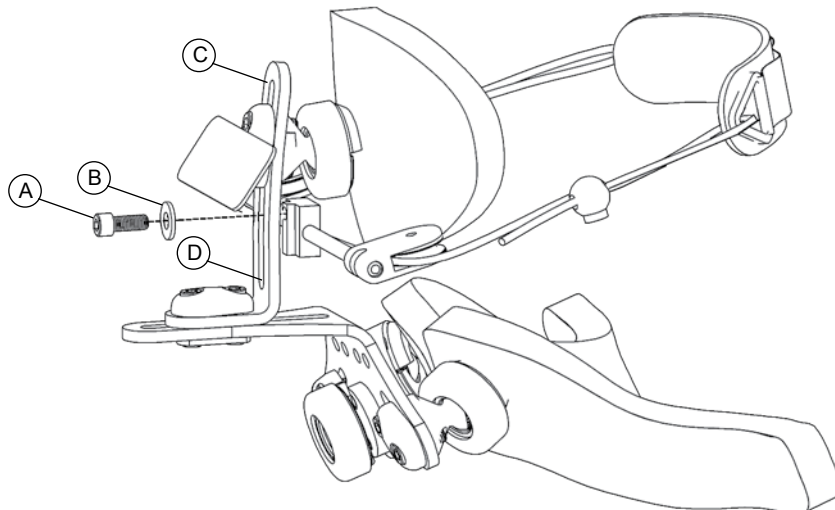

Fig. 3
Anterior Support Attachment to S.O.F.T. Base Plate Assemblies. (Fig. 3)
2. Refer to Fig. 3. Tighten bolts (Fig. 3, A) securely. Swingaway lateral bracket may be bolted either left or right or used in unilateral or bilateral configurations.